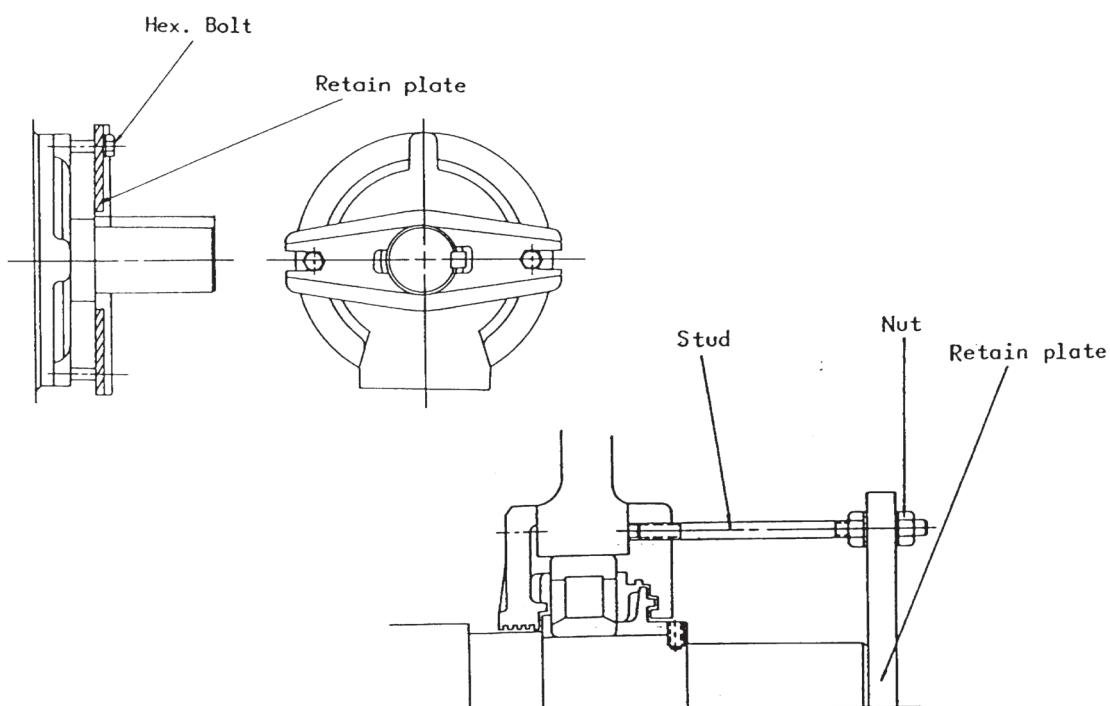

Fig 3
- 3.3.2. After receiving motor, remove all securing studs, nuts, etc. before putting motor into operation. (Fig.3)